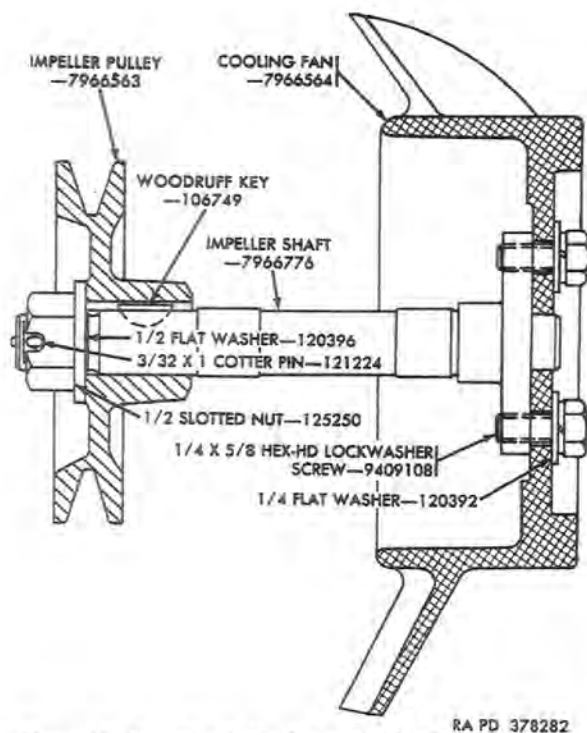

Figure 55. Impeller balancing assembly—Sectional view.
a. General. The following procedure covers complete disassembly of the blower. However, the fan, impeller shaft, and pulley are components of a dynamically balanced assembly (fig. 55), and should be carefully marked for reassembly in the balanced position. Keep these components in balanced sets.
b. Remove Impeller Inlet Guard. Remove four lockwasher screws (B), and pull impeller inlet guard (A) from fan housing and baffle assembly (J).
c. Remove Impeller Pulley. Remove cotter pin (D), slotted nut (C), and flat washer (E) securing impeller pulley (F) to impeller shaft (N), and pull pulley from shaft. Remove woodruff key (M). Mark pulley for reassembly to the same shaft.
d. Remove Cooling Fan and Impeller Shaft. Support housing on fan end, and press shaft (N) from two ball bearings (G and L) in housing (J).
e. Disassemble Fan and Shaft. Do not disassemble fan and shaft unless inspection (par. 74b) reveals damage. Before disassembly, mark both fan and shaft for assembly in same position. Mounting holes are equally spaced. If disassembly is required, remove three lockwasher screws (R) and flat washers (Q) attaching fan (P) to shaft (N) and separate fan and shaft.
f. Remove Bearings. Remove bearing retaining ring (K) from fan end of housing. Support hub inside housing, and press bearing (G), at pulley end,
a. Fan Housing and Baffle Assembly. The housing (J) is an aluminum casting. Refer to paragraph 26a and b for general procedures. Check fan housing (J-1) to repair and rebuild standards (par. 137). Replace a severely damaged housing. If inspection discloses a severely damaged baffle (J-2), press from inside housing (J-1) and replace.
b. Cooling Fan and Impeller Shaft. Cooling fan (P) is an aluminum castings, and impeller shaft (N) is heat treated steel. Inspect fan and shaft for cracks and other physical damage. Use magnifying glass to inspect ground surfaces. Check fan and shaft to repair and rebuild standards (par. 137). Replace a defective fan or shaft with a new balanced assembly (fig. 55).
c. Impeller Pulley. The impeller pulley (F) is cast iron. Refer to paragraphs 26a and b for general procedures. If pulley is replaced, the impeller assembly (fig. 55) must be dynamically balanced (e below).
e. Impeller Balancing Assembly. Impeller balancing assembly (fig. 55) consists of the fan, shaft, pulley, woodruff key, washer, hex nut, cotter pin, and three hex-head lockwasher screws. If fan, shaft, or pulley were replaced, the new assembly must be dynamically balanced. If balancing equipment is available, the assembly may be dynamically balanced within 0.125 ounce-inches by drilling 0.250-inch diameter holes in forward face of pulley.
Caution: Be sure matched components and a balanced assembly (fig. 55) are installed to avoid serious damage during operation of blower.